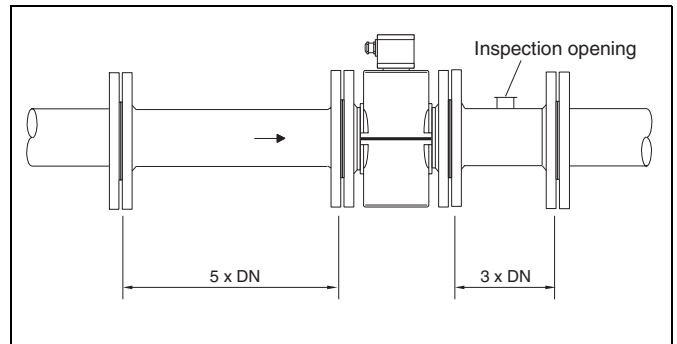

Fig.11 In- and Outlet Sections
- A straight section with the same diameter as the flowmeter and a length of at least 5 times the diameter is to be installed upstream and one 3 times the diameter downstream (Fig. 11). Sharp edges in the vicinity of the flowmeter are to be avoided. No additional inlets or outlets are to exist in the inlet section.
- For cleaning and examination purposes a inspection opening is recommended (see Fig. 11).